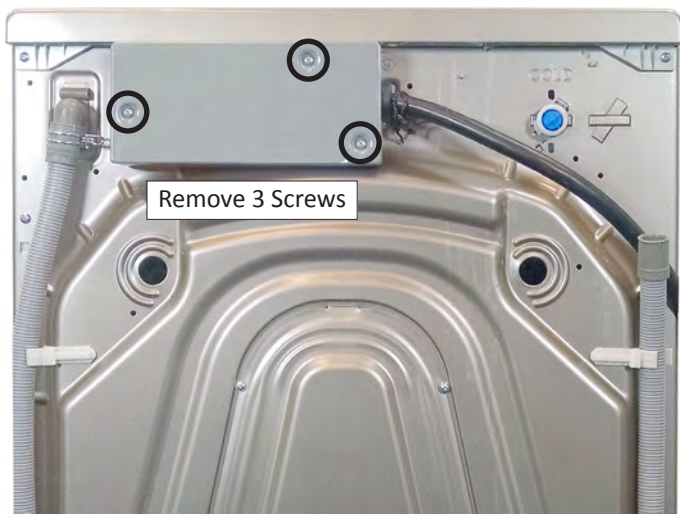

Figure 1
5. Using a Phillips screwdriver, remove the three (3) screws indicated in Figure 1. Remove terminal box cover.